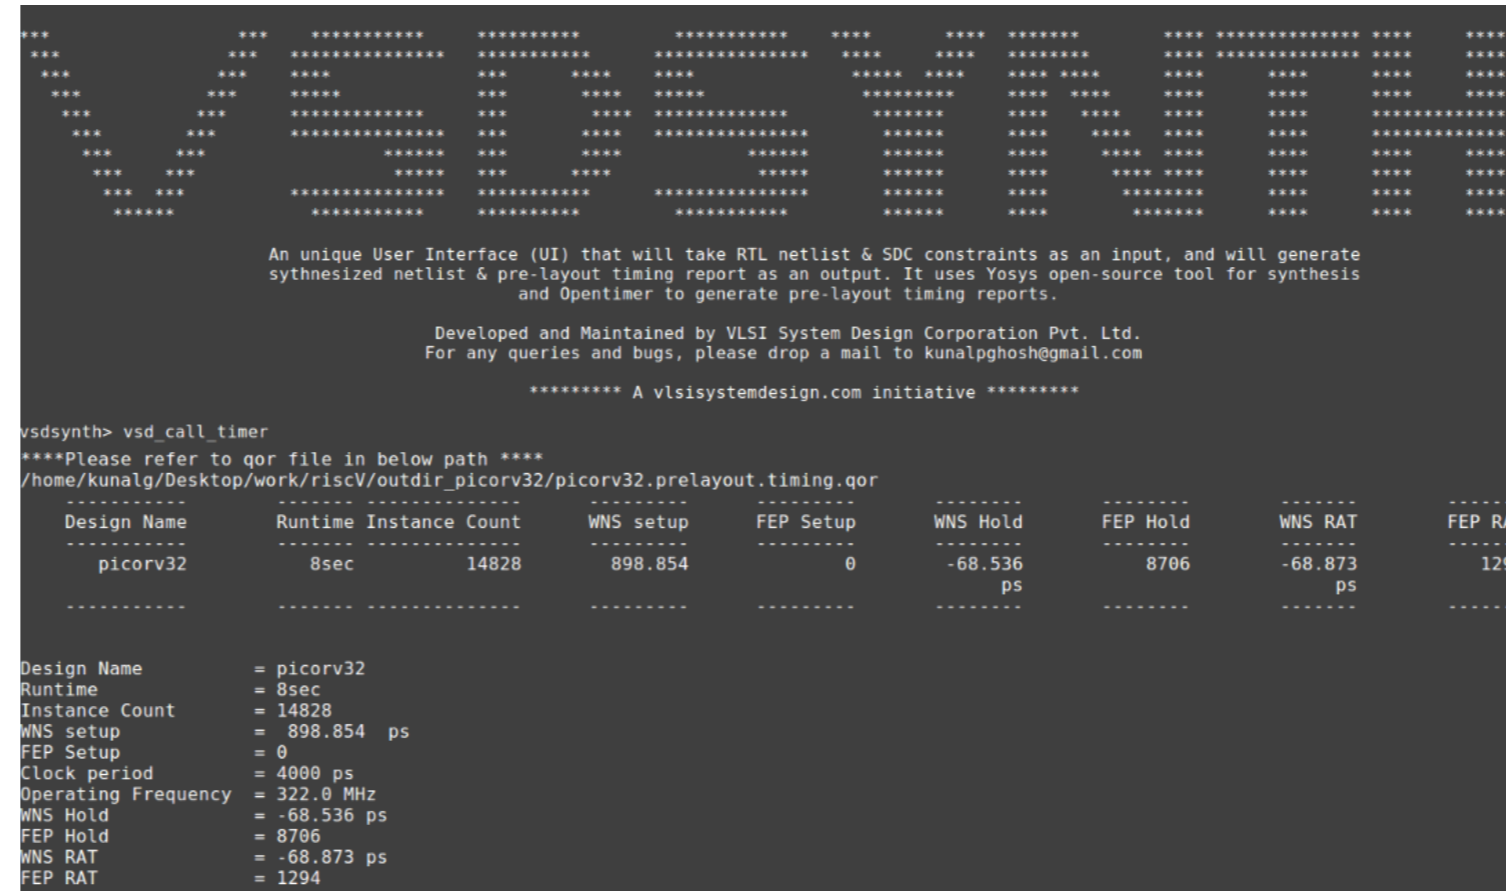

Figure 4: Input to vsdf flow in csv format
3. VSDFLOW has built-in proprietary-free commands, which can be used in a stand-alone fashion on VSDFLOW terminal. An example of proprietary-free command of VSDSYNTH (VSDSYNTH is a "synthesis+STA" section of VSDFLOW) is shown in figure 4